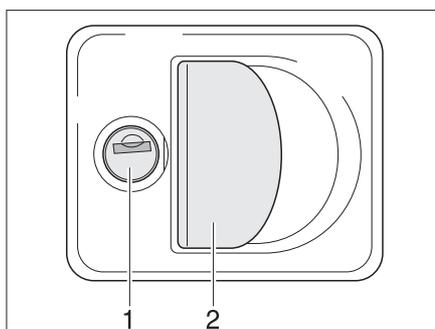

Fig. 29 Flap lock with recessed handle
- Insert the key into the locking cylinder (Fig. 29,1) and turn a quarter turn. The flap lock is unlatched.
- Pull on the lock handle (Fig. 29,2). The external flap is open.